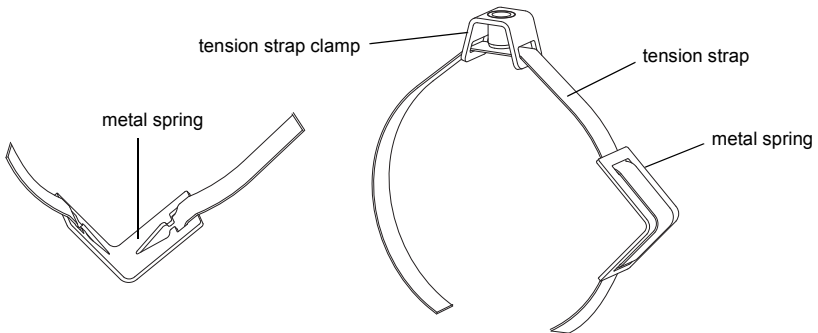

Fig. 7.29: Tension strap with the metal spring and the tension strap clamp
- Insert the long end of the tension strap in the tension strap clamp and the metal spring (see Fig. 7.29). It is not necessary to mount the metal spring: